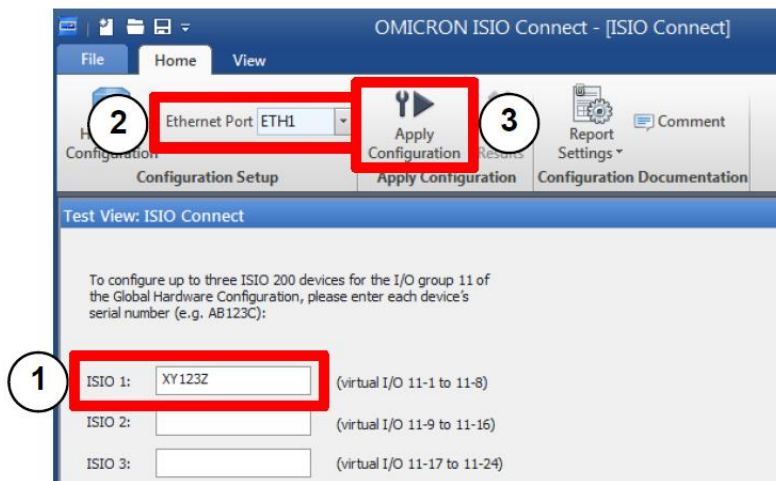

Figure 6: *ISIO Connect* configuration.
- B. In the *ISIO Connect* software (accessible via the *Test Universe* start page), as shown in Figure 6: